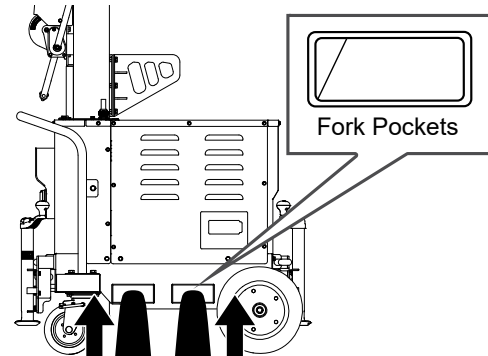

Figure 27. Inserting Forklift Forks
2. Insert the forks fully into the fork pockets (Figure 27).